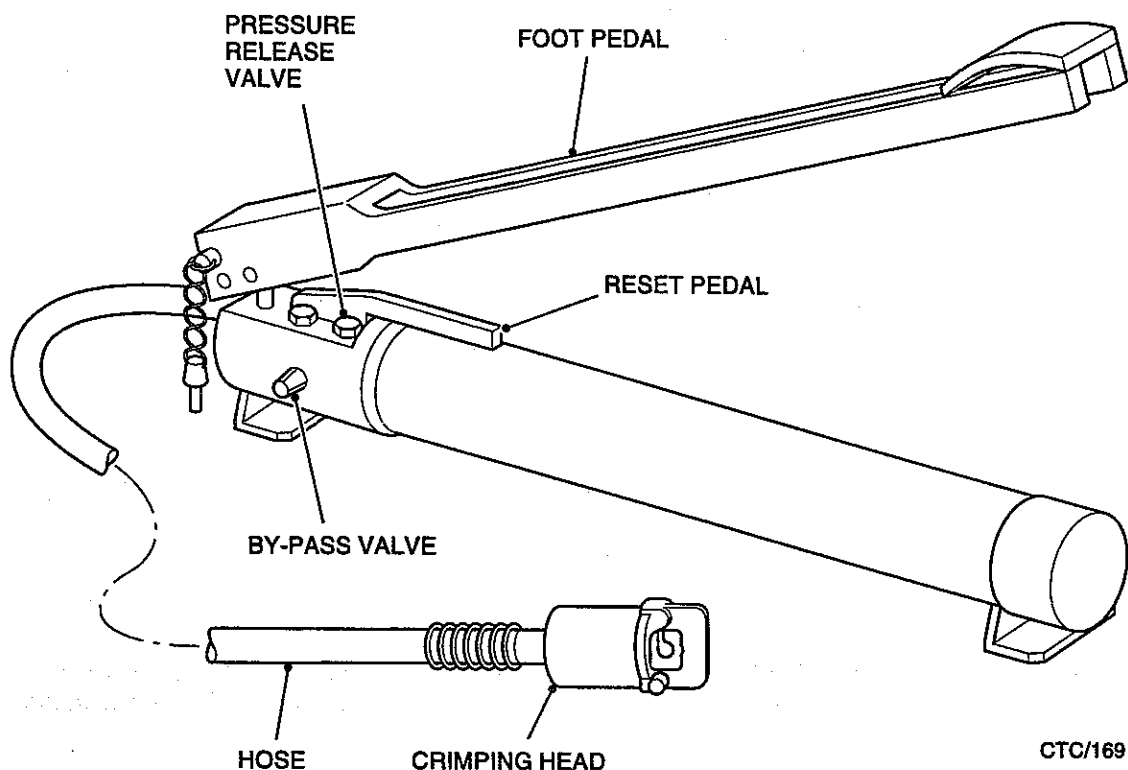

Fig 4 Hydraulic foot-operated crimping tool
6.2 Foot-operated hydraulic tool (see Fig 4). This tool (Part Nos. Head - 69066, Foot - 781019), when fitted with the appropriate dies, is used to crimp terminations to cables in the size code range 1/0 to 4/0.
Foot-operated tool (see Fig 4)